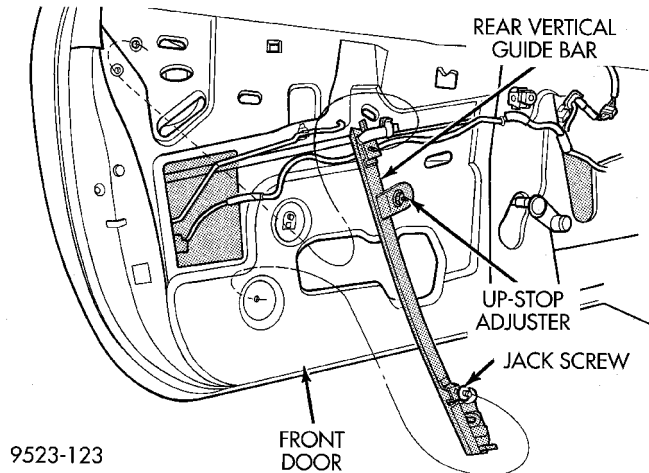

Fig. 26 Rear Vertical Guide Bar
- (1) Remove door trim panel and water shield.
- (2) Remove nut holding top of rear guide bar to inner door panel.
- (3) Using a Snap-on® flare-nut socket (FRXM10) and a hex wrench, remove nut holding bottom of guide bar to door panel while holding jack screws.
- (4) Remove rear vertical guide bar through large access hole in inner door panel (Fig. 26).